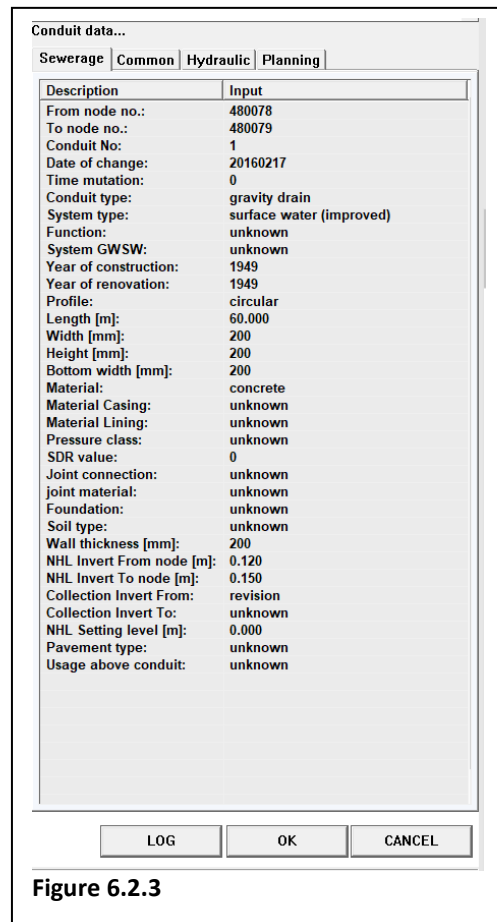

Figure 6.2.3
3. The "Conduit data" window is now displayed on the right side, as shown in figure: 6.2.3.